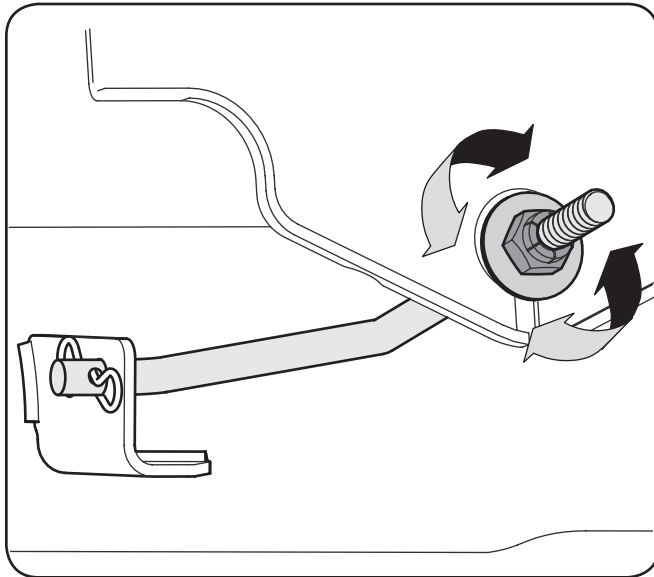

Figure 6-3
3. Locate the flange lock nut on the front side of the stabilizer bracket. See Figure 6-3.